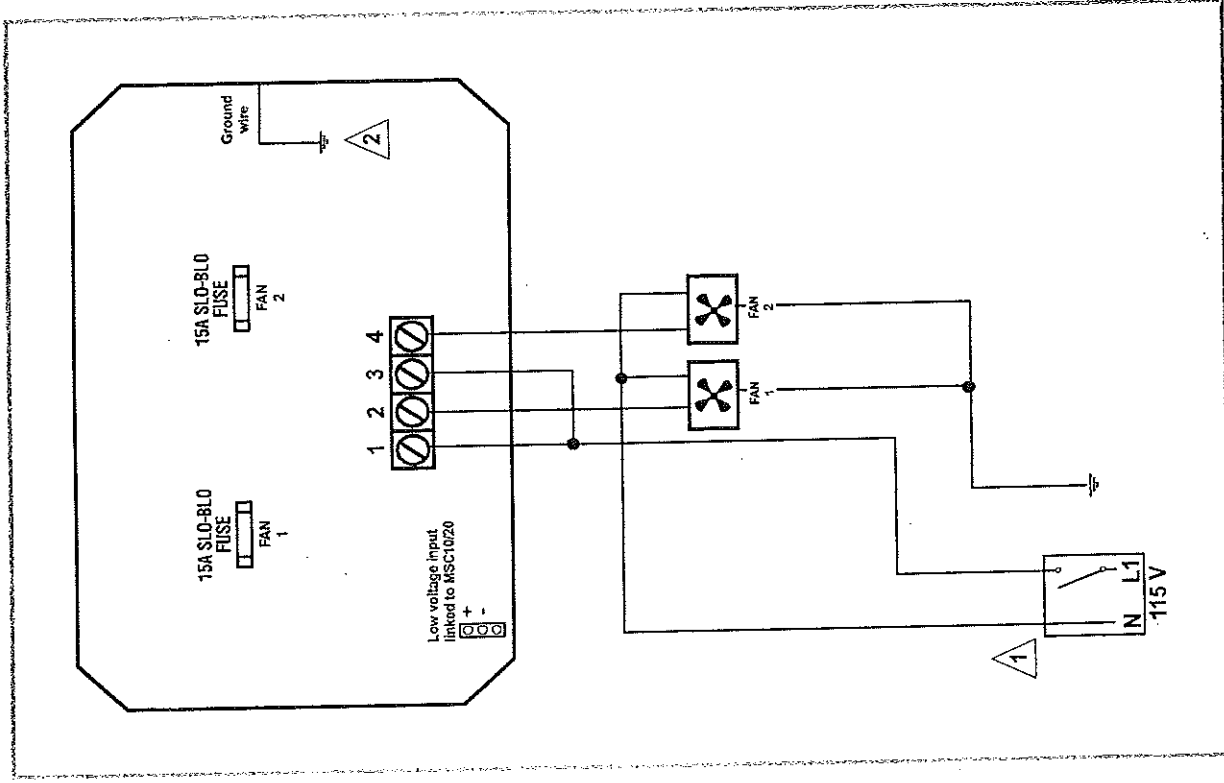

Fig. 1
For the connection procedures which follow refer to Figures 1 and 2.
Refer to figure 1.
- Connect one end of the cable to the (+) and (-) terminals of the VSM-2 low voltage terminal block. Refer to the bottom left corner of figures 1 or 2.
Notes for Figures 1, and 2
- ⚠ Connect the grounding wire from the power cord to the ground terminal wire (shown in Figures 1 and 2) inside the housing.